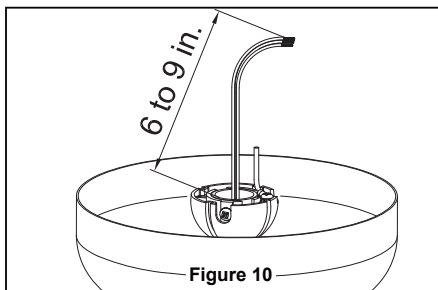

Figure 10
10. Cut off excess lead wire approximately 6 to 9 inches above top of the downrod. Strip insulation off 1/2 inch from the end of each lead wire. (Figure 10)